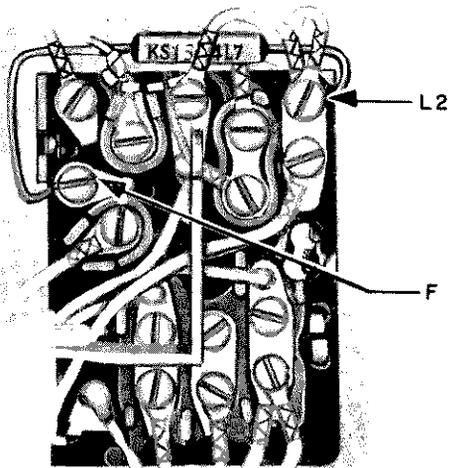

Fig. 8 — 500C, D or 501C, D Telephone Set, KS-13814, List 7 Capacitor Installed
4.05 The KS-13814, List 7 capacitor is installed in the 500C, D and 501C, D telephone sets as shown in Fig. 8. It is connected across the F and L2 terminals of the 425B network. If the set is used as the tip station on 2-party message rate service, the capacitor should be connected across L1 and L2 of the 425B network. Cover the exposed portions of the capacitor leads with tubular insulation. For low-frequency interference, another KS-13814, List 7 capacitor may be needed across terminals R and RR on the 425B network.